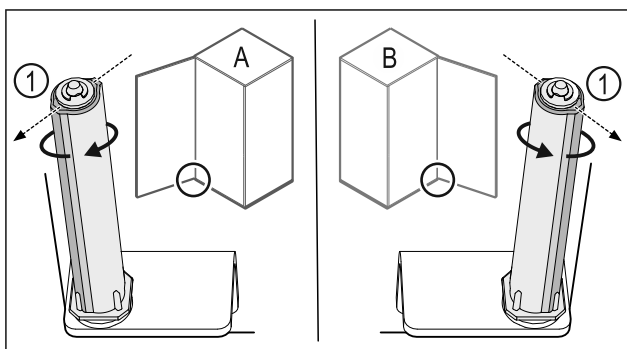

Fig. 37 Left-hinged (A) / Right-hinged (B)
- Turn the closing system against the resistance until the bar of the closing system Fig. 37 (1) points outwards.